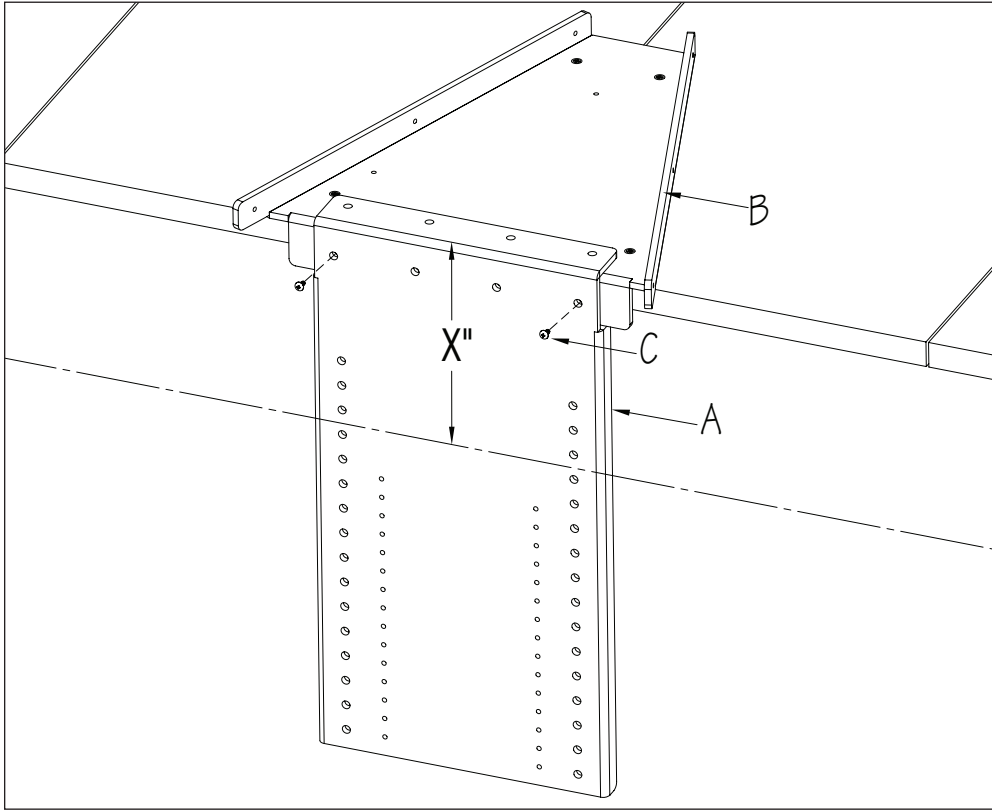

Fig. 16
3. Loosely secure the Hanging Bracket (A) to the Deck Plate (B) with two of the 1/2" (13mm) Phillips Truss Head Screws (C). Measure from the top of the Hanger Bracket to the waterline to capture the freeboard measurement (X). The Hanger Bracket can then be removed (Fig. 16).